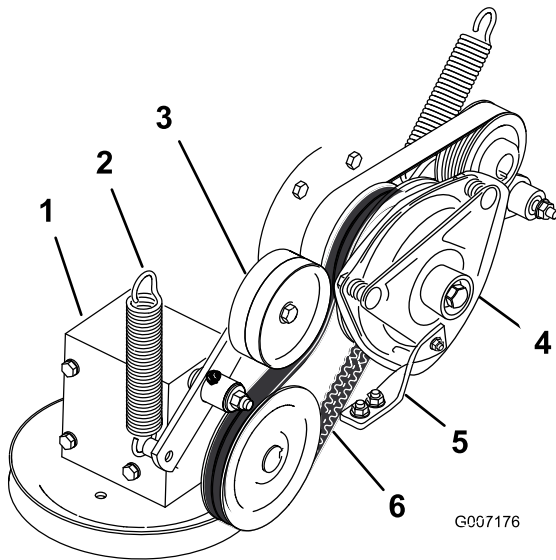

Figure 76
4. Remove the spring from the idler arm (Figure 76).
7. Install the PTO-drive belt around the clutch pulley and the gearbox pulley (Figure 76).
9. Install the spring to the idler arm (Figure 76).